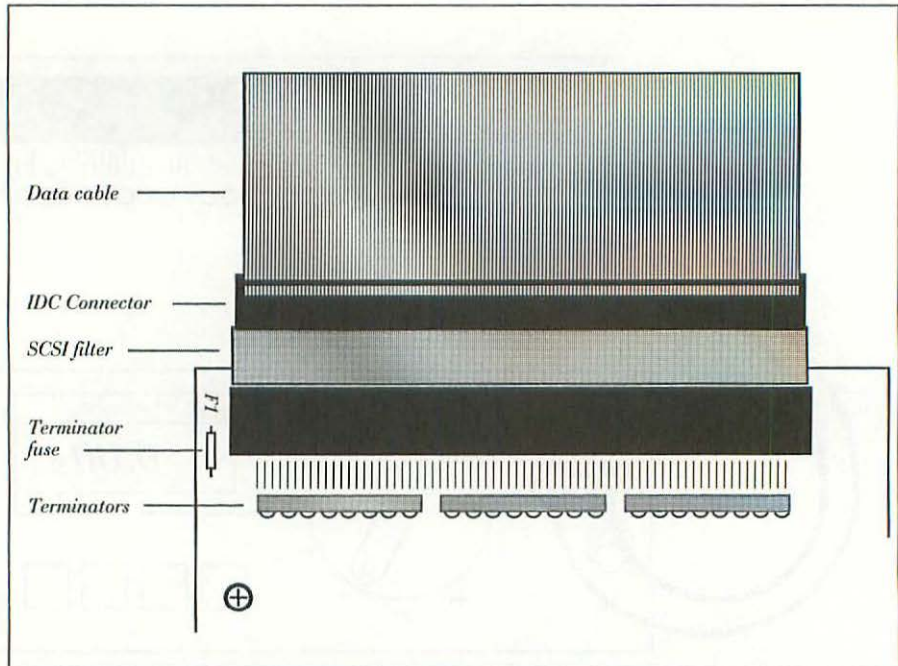

Figure 9-11 A SCSI filter plugs into the 50-pin socket at the back of a SCSI drive.
Most internal SCSI drives installed in a Macintosh IIfx and some internal SCSI drives used in a Macintosh IIci require a SCSI filter to suppress line noise. The SCSI filter plugs into the 50-pin socket at the back of the SCSI drive. The 50-pin data cable that normally plugs into the socket plugs into the filter. This arrangement is shown in Figure 9-11.
5. Refer to Figure 9-11. If necessary (Macintosh IIx), plug a SCSI filter into the back of the new drive.